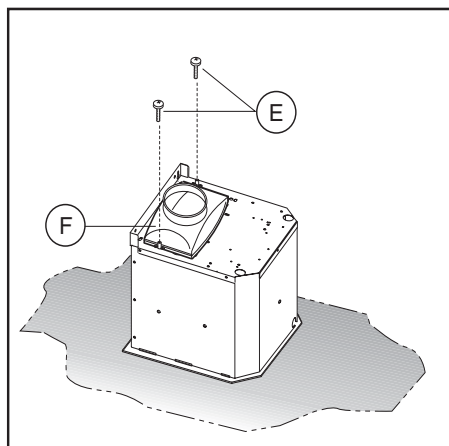

Fig.9
- If your product is fitted with a connector flange, perform the assembly steps indicated in fig. 9 before fixing the cooker hood to the structure.
Take connector flange **F** and fit it to the upper part of the cooker hood suction assembly using the 2 screws **E** (fig. 9).